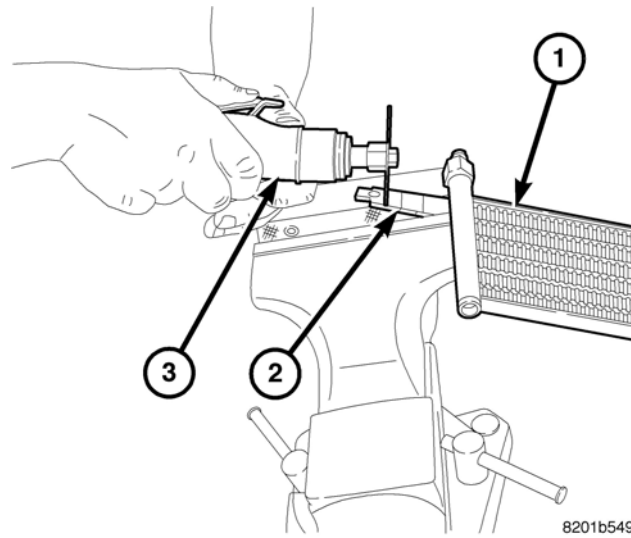

Fig. 5 CUTTING LEFT TRANSMISSION COOLER BRACKET TAB
7. Clamp the transmission cooler into a vise by the left mounting tab/bracket. Measure approximately one inch (25 mm) from the outboard end of the tab and scribe a line across the tab. Then, using a high speed cut-off tool, cut the left mounting tab/bracket on the scribed line removing the end of the tab/bracket, (Fig. 5).